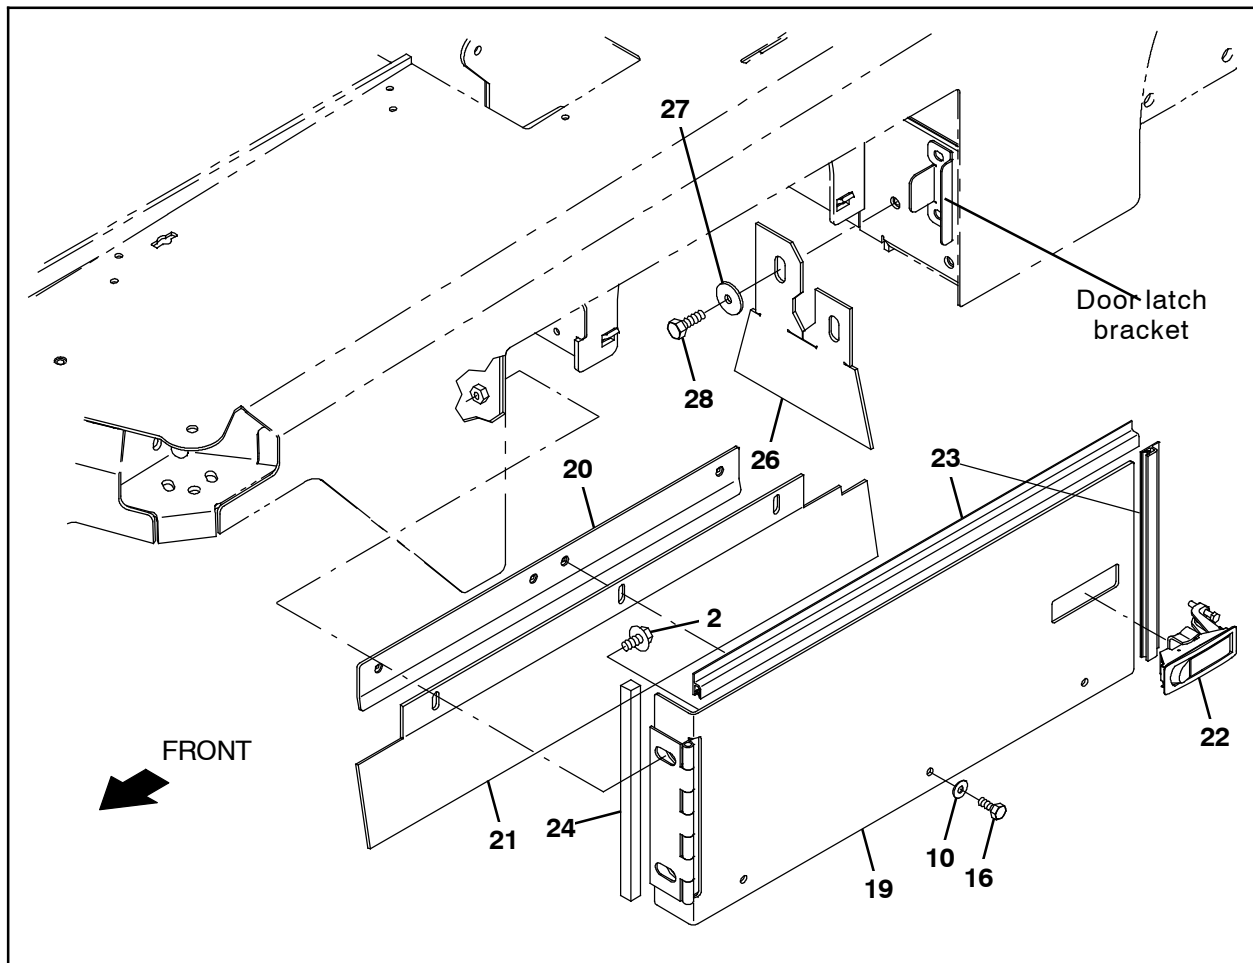
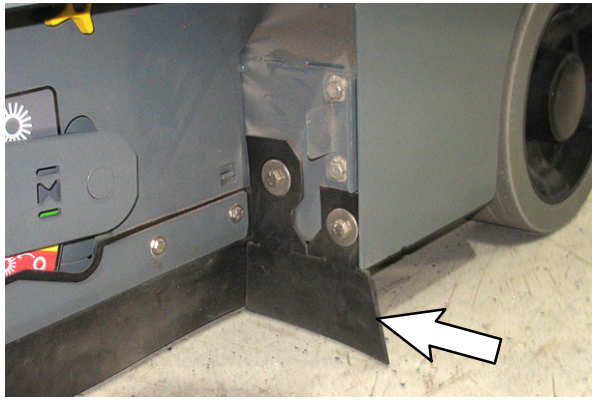

FIG. 3
FIG. 5
1. Remove the brush door from the left side of the machine. Discard the brush door and all mounting hardware. (Fig. 3)
2. Measure the height and width of the new brush compartment access door (19). (Fig. 3)
3. Cut the wiper seal (23) to the height and width lengths measured on the brush compartment access door (19) in the previous step. (Fig. 3)
4. Install the cut lengths of wiper seal (23) onto the brush compartment access door (19). (Fig. 3)
5. Install the rubber seal (24) onto the brush compartment access door (19). (Fig. 3)
6. Use three M6 hex screws (16) and three flat washers (10) to install the skirt retainer bracket (20) and door skirt (21) onto the brush compartment access door (19). Do not completely tighten the M6 hex screws. The M6 hex screws are tightened during later adjustment. (Fig. 3)
7. Install the latch (22) into the brush compartment access door (19). (Fig. 3)
8. Use two SEMS M8 hex screws (2) to install the brush compartment access door (19) onto the machine. (Fig. 3)
9. Attempt to close and secure the brush compartment access door (19). (Fig. 3)
If surface of brush compartment access door is not flush with outer edge of the frame of machine, adjust the position of the door latch bracket on the frame of the machine until door is flush. (Fig. 3)
If it is difficult to use the latch (22) to secure brush compartment access door closed, adjust the latch as necessary so door can be secured. (Fig. 3)
10. Use two M8 hex screws (28) and two flat washers (27) to install one rear side skirt (26) onto the machine. (Fig. 5/Fig. 3)
11. Observe the distance of bottom of the door skirt (21) to the floor. The bottom edge of the door skirt should be barely touching or just slightly above the floor. (Fig. 3)
12. Adjust the door skirt (21) as necessary and tighten the three M6 hex screws (16) to completely secure the floor skirt to the brush compartment access door (19). (Fig. 3)
15. Use two M8 hex screws (28) and two flat washers (27) to install the remaining rear side skirt (26) onto the machine. (Fig. 7/Fig. 5)